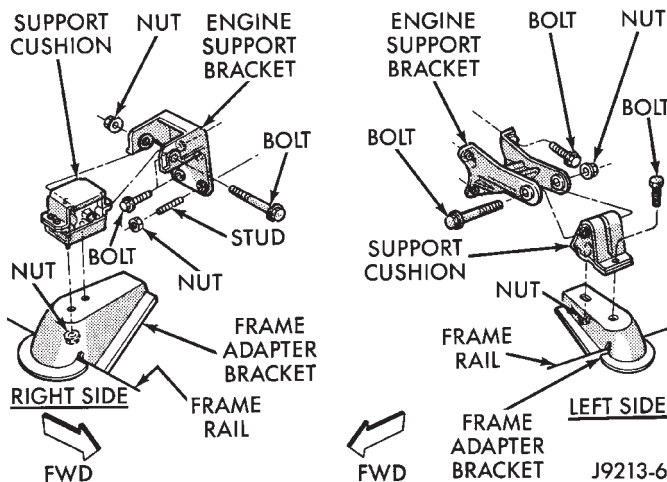

Fig. 3 Engine Support Cushion—2.5L Engine
- (1) Raise and support the engine.
- (2) Remove the nut and bolt that attach the engine support cushion to the engine support bracket (Figs. 3 and 4).